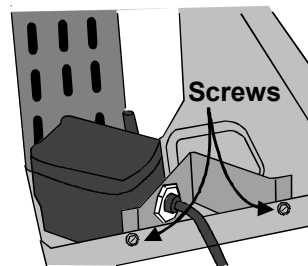

Figure 7
- Orient the pump in the back left corner of the basepan and screw the pump bracket to the basepan with the provided two 1/2 inch #8 screws (Figure 7).